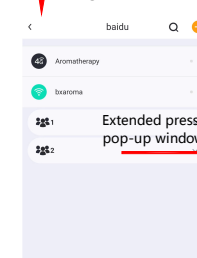

Figure 24
- (5). Extended press pop-up window of the secondary grouping list to Add / remove devices / Rename / Group settings / Delete the groups (Figure 24 / 25).